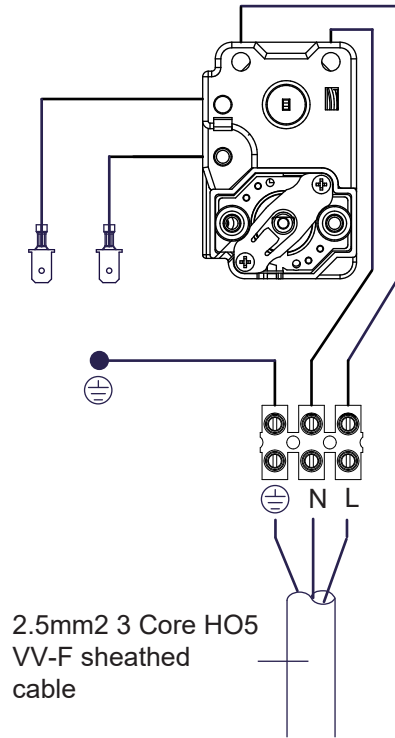

Figure 13: Wiring schematic - DIRECT models
- ▶ The immersion heater(s) should be wired in accordance with Fig 13. The immersion heater(s) MUST be earthed. The supply cable should be a minimum 2.5mm² 3 core HO5 VV-F sheathed cable and must be routed through the cable entry ports secured using the cable securing bar provided.